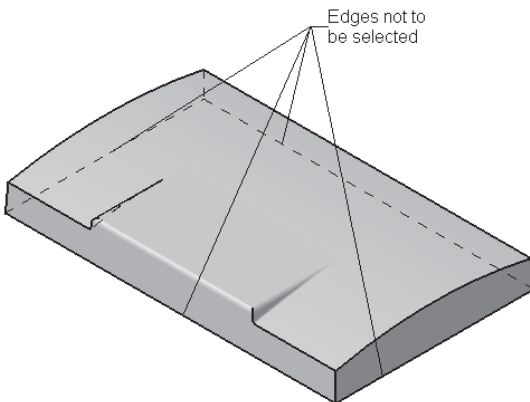

**Figure 5-96** Edge to be filleted
5. Select the edge shown in Figure 5-96 and set the value of the **Radius** spinner to **1**.